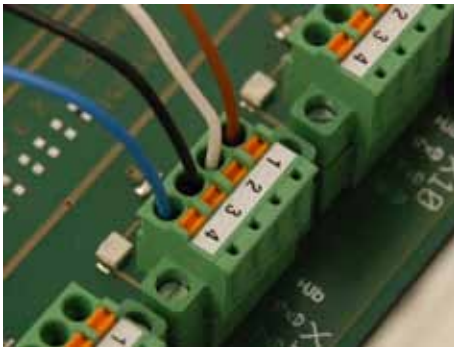

Fig. 59: Connecting a sensor
1. Connect the conductors of the sensors according to Fig. 59. For details refer to the respective terminal diagrams.